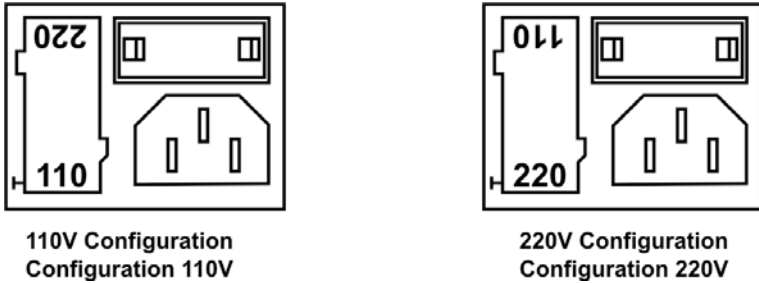

Figure 4-8: Fuse Cartridge
19. Prior to power-up, the instructor must verify that the fuse cartridges (see Figure 4-8) in the MCA and ICA are correctly installed for the line voltage. The embossed arrow on the main power assemblies must point to “110” for North American voltage or to “220” for European voltage. Change the cartridge as necessary by prying up the faceplate, rotating the cartridge, and snapping it back into place.